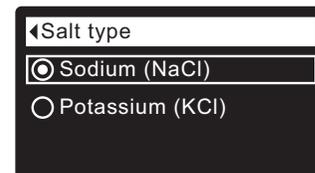

FIG. 38
5. Press the SELECT (O) button to display the Salt type menu (See Figure 38).
6. If the desired salt type already has a black dot next to it (See Figure 38), go to Step 7. Otherwise, press the conditioner’s DOWN (▼) or UP (▲) buttons to scroll to the other salt type, then press SELECT (O) to choose it.
7. Press the SELECT (O) button. The display will go back to the Salt settings menu.